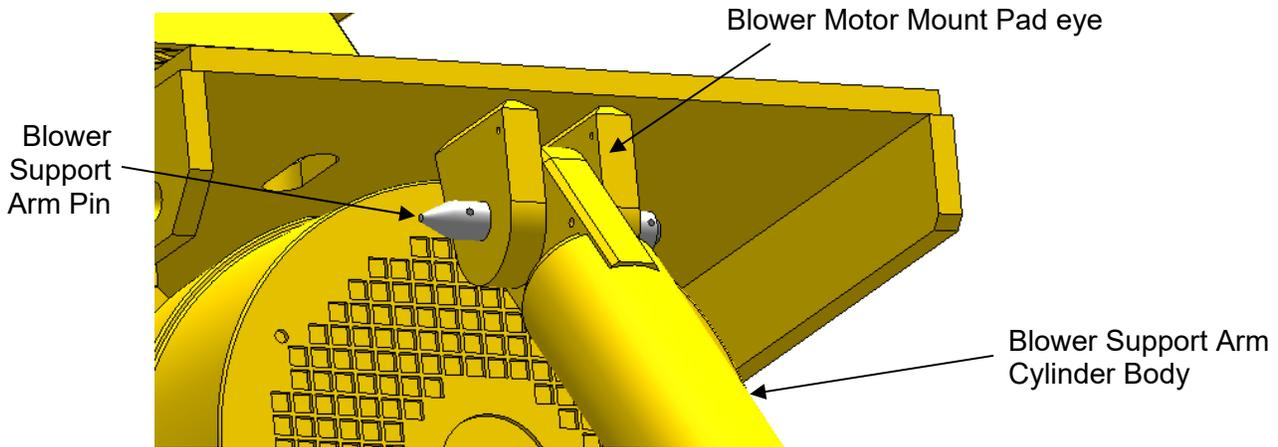

Figure: 4.8 Aligning the blower support arm
2. After verifying the two conditions specified in Step 1, attach the main body of the arm to the blower motor mount pad eye using the blower support arm pin, as shown in Figure 4.8.